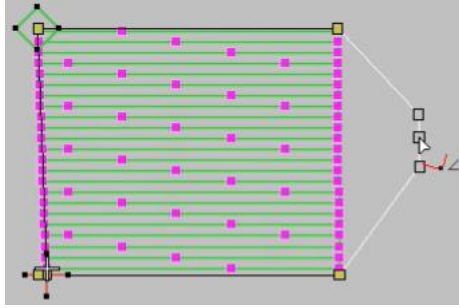

Figure 3
5. Select the position where you want to offset the point (as shown in Figure 2) and move it (as shown in Figure 3).